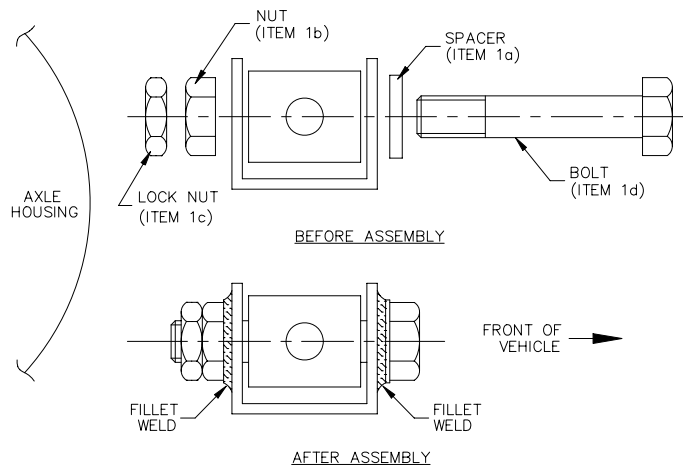

Figure 1 Panhard Rod Mount
- (1) Using a grinder or file, clean the outside surfaces of the panhard rod mount.
- (2) Fit Items 1a, 1b and 1d from Table 1, item 1 into the axle case mounts (Figure 1) and tighten them firmly.
- (3) Fillet weld the front washer to the front axle case mount and the rear nut to the rear axle case mount, as shown in Figure 1 with a 3 mm continuous fillet weld, using either:
- (4) Remove the bolt and paint all bare metal surfaces.